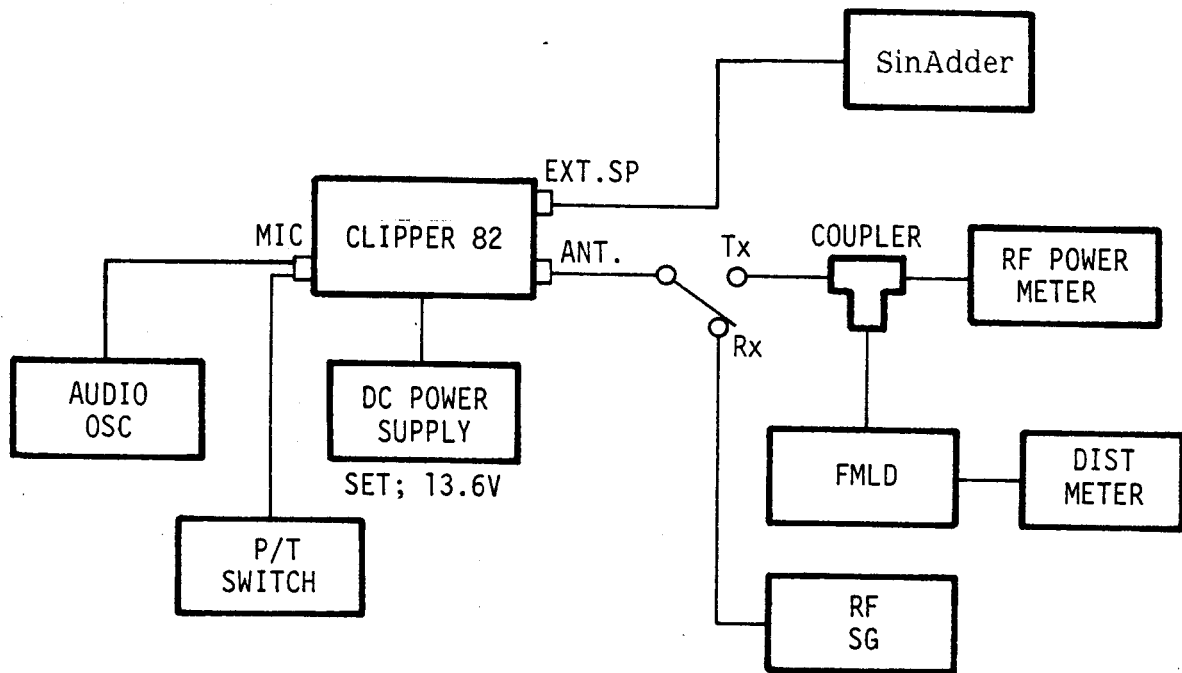

Figure 5-1 Test Equipment Interconnection
This radiotelephone is completely aligned at the factory and should not require any adjustments at installation. However, it is considered good practice to verify that none of the adjustments has changed or been disturbed before or during installation. The test equipment listed below (5.3.1) is used for the test setup shown in Figure 5-1. This test setup is used either in part or total during the following adjustments.
- 3) Connect audio oscillator and PTT toggle switch to microphone Jack J102 as shown in Figure 5-1.